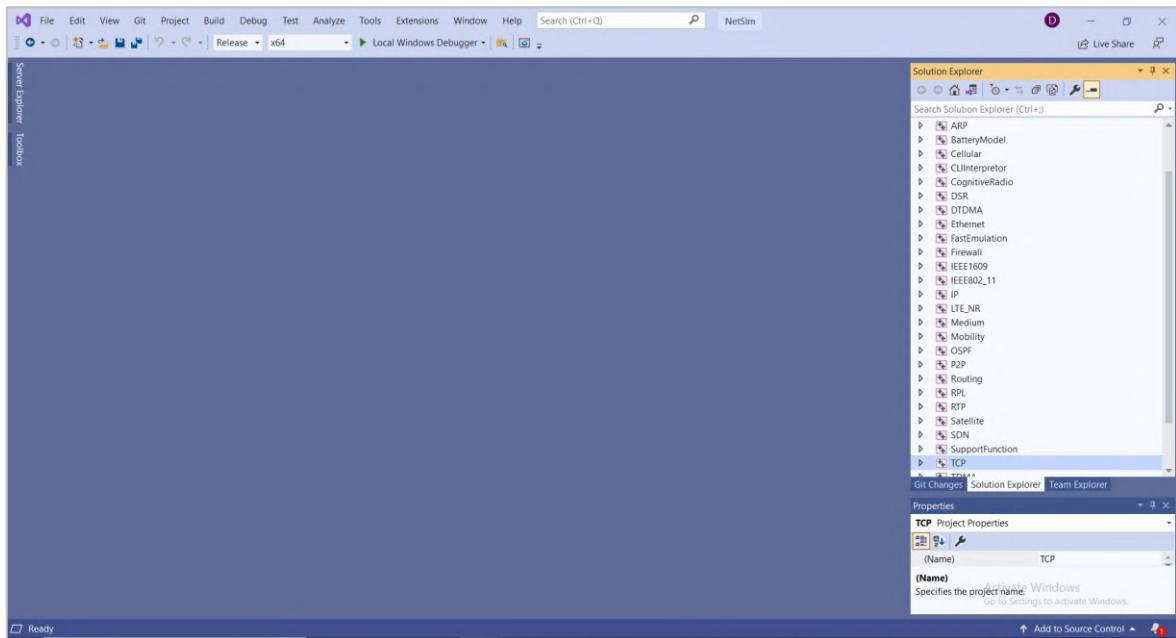

Figure 9-6: Based on the build of NetSim select x64 in Visual studio
2. By default, x64 is chosen for 64-bit version of NetSim. These changes will be automatically applied to all projects that are displayed in the Solution Figure 9-6.